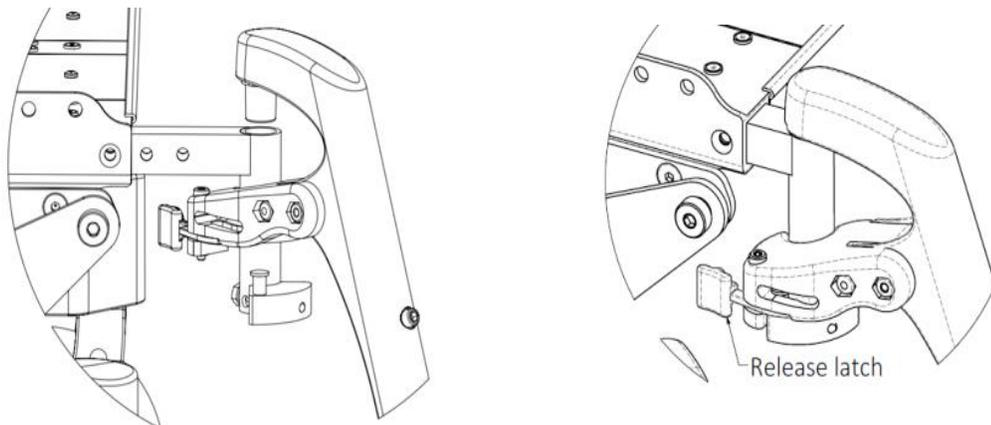

Figure 15.15: Swing-Away Front Rigging Latch Installation and Removal
- a. Orient the footrest at approximately 45° outboard of the wheelchair as shown in Figure 15.15
- f. To release the locking mechanism, push the release lever as show in Figure 15.15